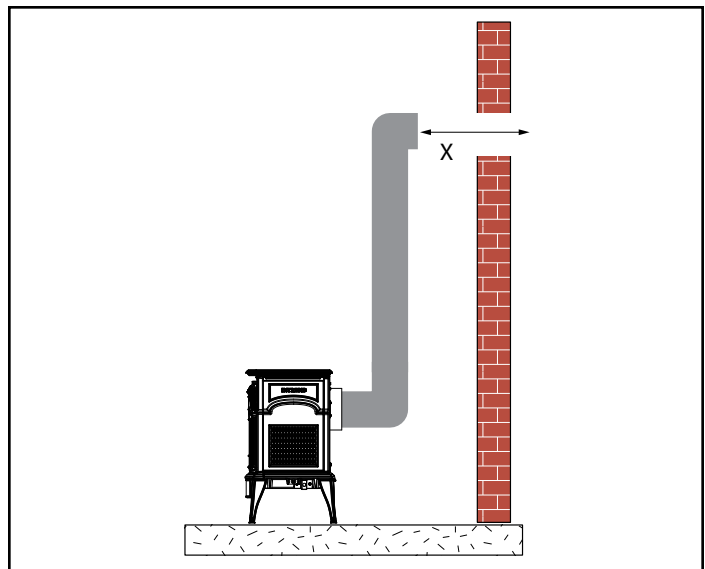

Figure 3.12 - Horizontal Length Requirement
5. Measure the horizontal length requirement including a 2" (51 mm) overlap, i.e. from the elbow to the outside wall face plus 2" (51 mm) (or the distance required if installing a second 90° elbow), Figure 3.12.